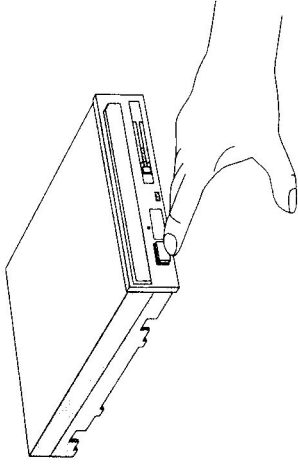

Figure 14. Pressing the Stop Button
1. Press the stop button, as shown in Figure 14.